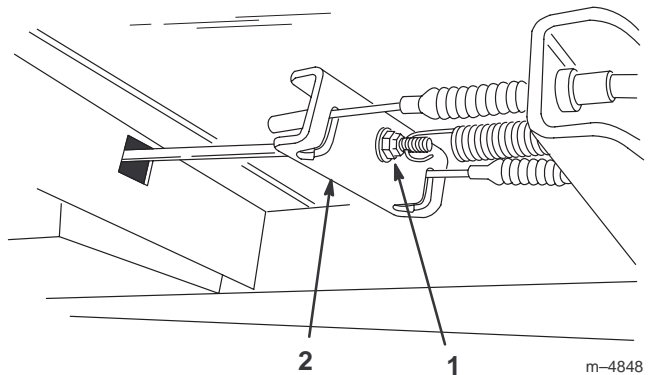

Figure 23
3. Tighten the cable adjusting screw, located beneath the floor panel, until the cables are snug in the brake equalizer (Fig. 23). Do not overtighten. There should be some free play in the brake pedal before the brake engages.